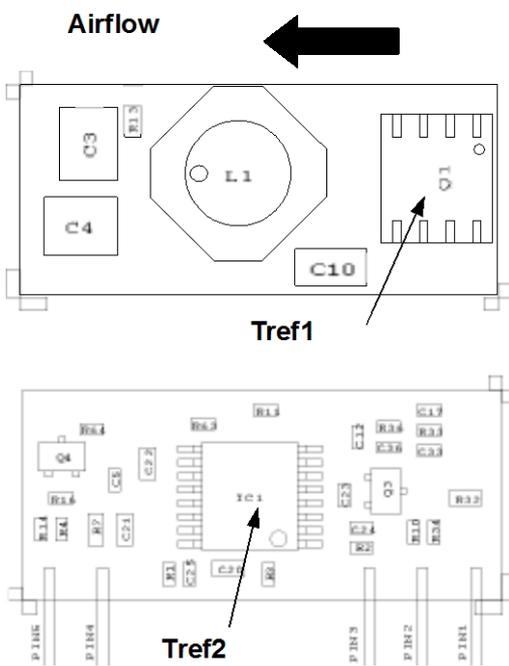
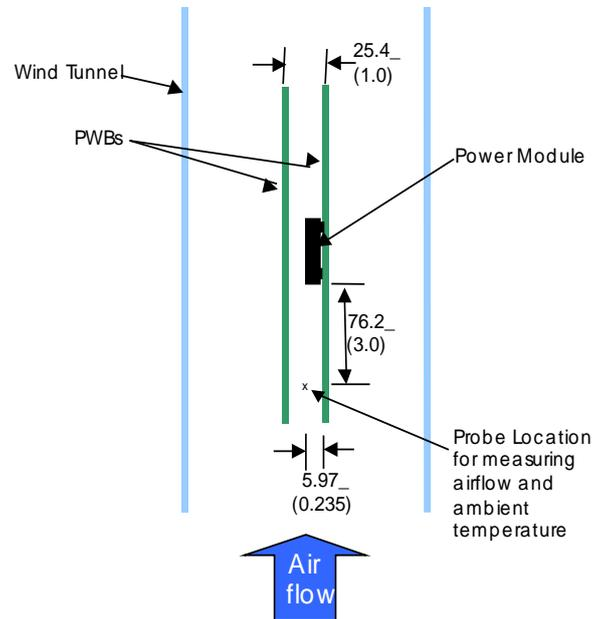

Figure 31. Tref Temperature measurement location.
Figure 32. Thermal Test Set-up.
To provide over temperature protection in a fault condition, the unit relies upon the thermal protection feature of the controller IC. The unit will shutdown if the thermal reference point T_{ref2} , (see Figure 31) exceeds $140^{\circ}C$ (typical), but the thermal shutdown is not intended as a guarantee that the unit will survive temperatures beyond its rating. The module will automatically restarts after it cools down.
Considerations include ambient temperature, airflow, module power dissipation, and the need for increased reliability. A reduction in the operating temperature of the module will result in an increase in reliability. The thermal data presented here is based on physical measurements taken in a wind tunnel. The test set-up is shown in Figure 32. Note that the airflow is parallel to the long axis of the module as shown in figure 31. The derating data applies to airflow in either direction of the module’s long axis.
The thermal reference point, T_{ref} used in the specifications is shown in Figure 32. For reliable operation this temperature should not exceed 115°C.